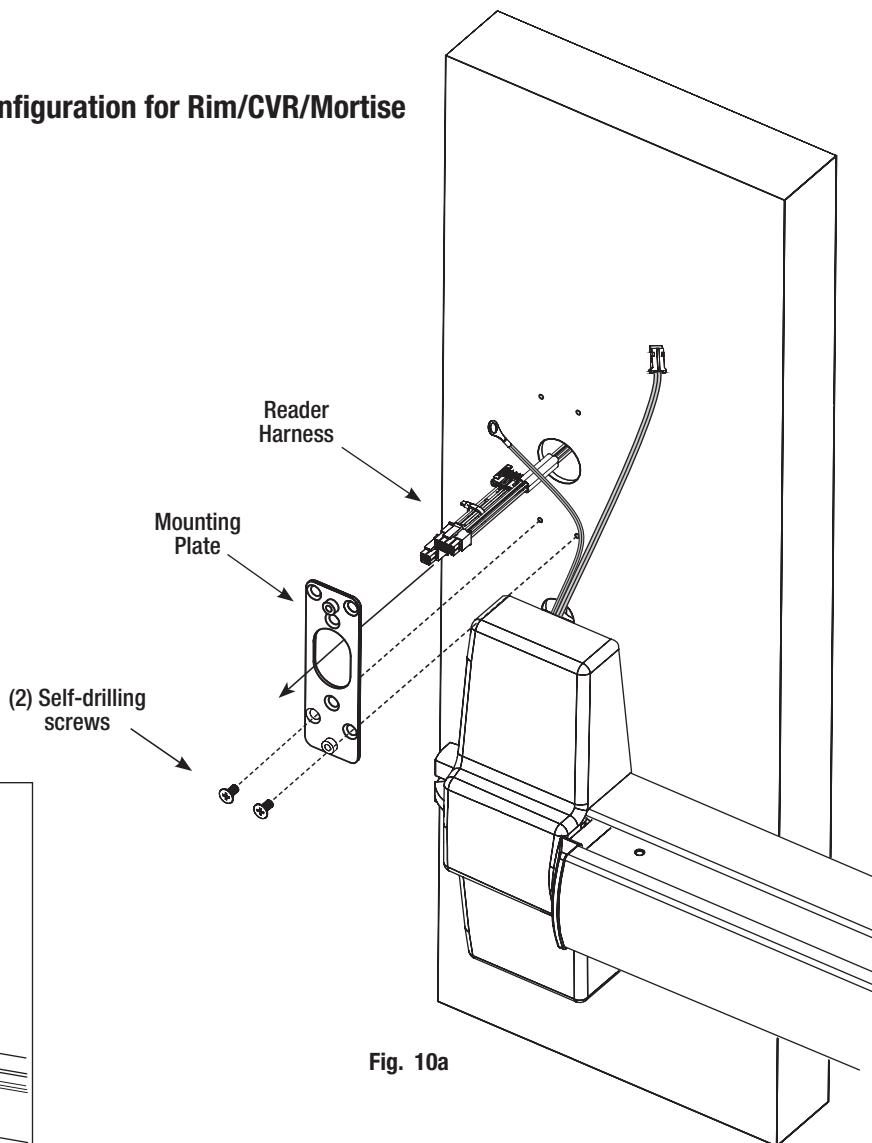

Fig. 10a
a. Feed reader harness through mounting plate (Fig. 10a, b).
Begin to secure mounting plate to inside door surface by fastening (2) Phillips flat head machine screws to lower right and left holes on mounting plate (Fig. 10a).